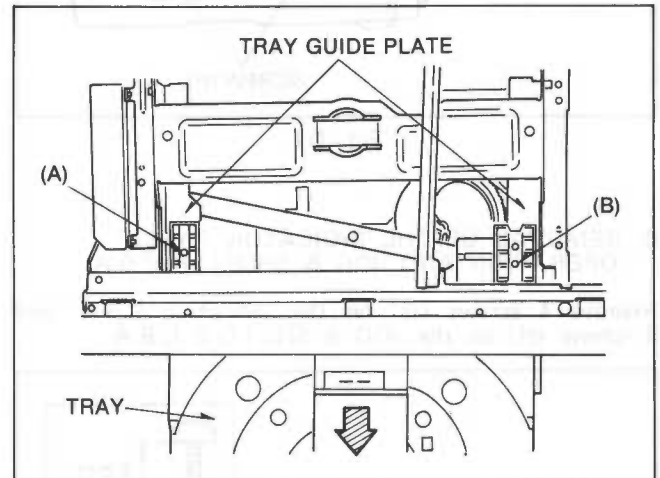

Fig. R1
3. Press the Tray Stopper (Hole A and B) to unlock the locking tab on the Tray Guide Plate by using Driver and then remove Tray Plate as shown in Fig. R1.
7. Confirm that both Tray stopper Tabs are locked as shown in Fig. R1.
1. Remove the Tray unit (Refer to Fig. R1)